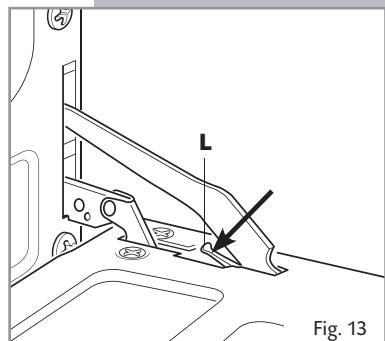

Fig. 13
- Push down the lever "L" fig. 13 and, keeping it in this position, slowly close the door in order to block the hinge.